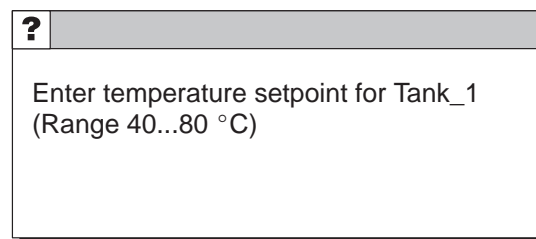

Figure 3-5 Window with help text (example)
**Help text** After pressing the HELP button, the help text configured for the relevant input field appears. See figure 3-5 on page 3-11 for an example.
After pressing the HELP button the help text configured for the relevant input field appears. See figure 3-5 on page 3-11 for an example.
The configured help text can be called to the screen by accessing the relevant input field and pressing the HELP button. Figure 3-5 depicts an example of the output window.